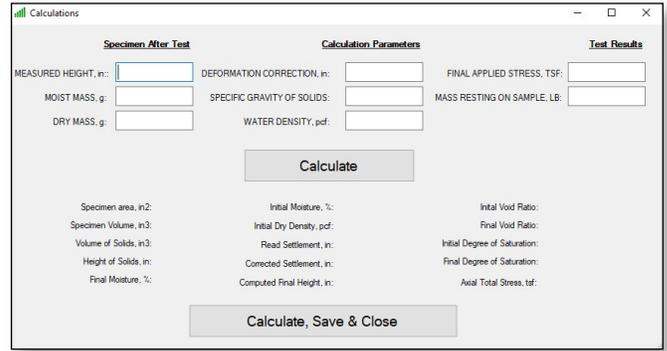

Figure 12: Calculations Menu
8. Once final values have been obtained make sure the correct test file is open then select the **Calcs & Reports** button. Enter the **Specimen After Test** values and **Calculation Parameters** into the **Calculations** menu (Figure 12) then select **Calculate**. The calculated values will appear in the bottom half of the calculations menu. Select **Calculate, Save & Close** to save these calculated values to the testing report file.